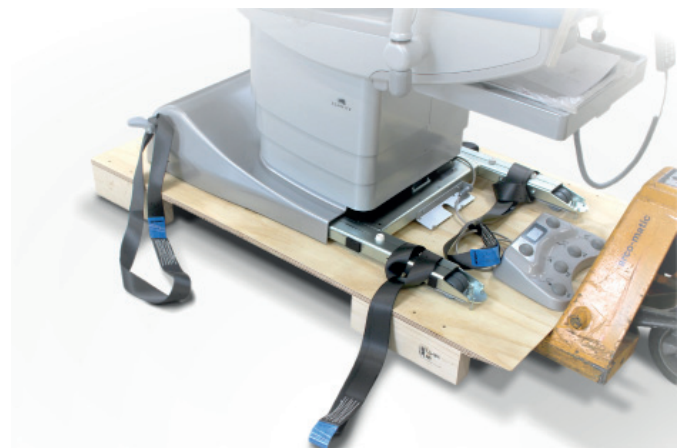

Fig. 5
- ▶ As shown in Fig. 5, attach a carry strap at each point on the main frame with a caster or leveling foot (if this has not already been done). For models with the mobility function, attach the rear carry straps to the locking pedal.